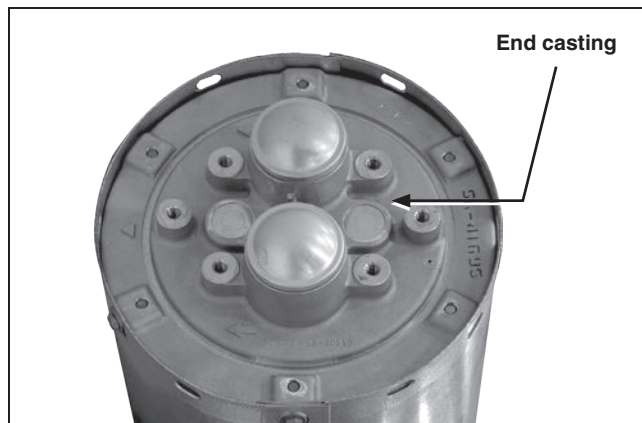

Figure 19. Wire-brushing the surface of the end casting and preparing with aluminum-connector compound.
STEP 6. Thoroughly wire-brush the indicator end-casting where the upper terminal pad is to be attached as well as the mating surface on the upper terminal pad, and immediately apply a liberal coating of Penetrox A or other suitable aluminum-connector compound. See Figure 19 on page 21.